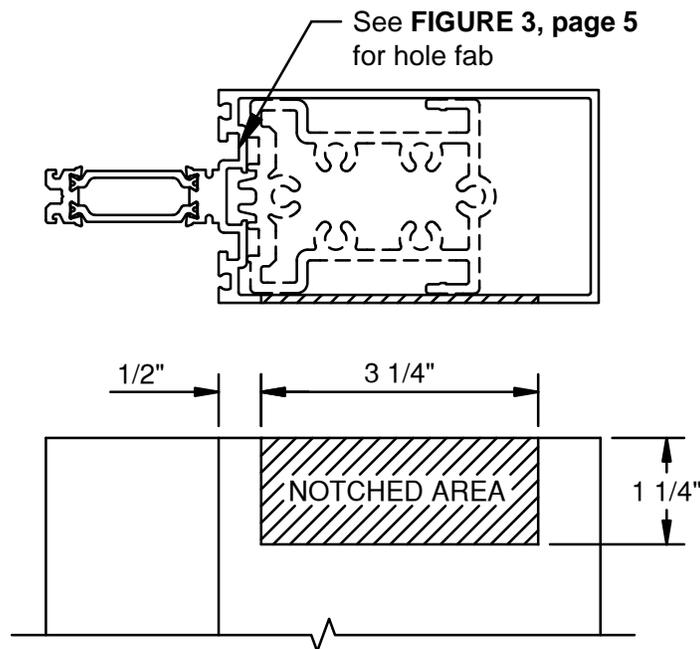

FIGURE 6
NOTE: Last bay intermediate horizontals must be notched. SEE FIGURE 6.
2.1.8 Install lower verticals plumb and level, ensuring proper spacing out from floor slab or beam. Place shims under vertical mullion at sill to evenly distribute deadload from wall. NOTE: Last bay intermediate horizontals must be notched. SEE FIGURE 6.